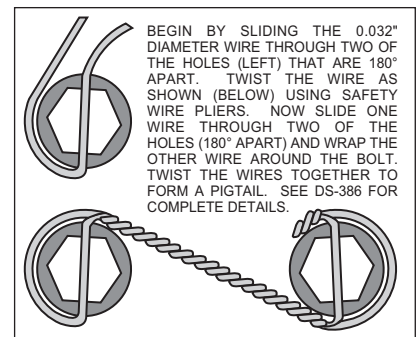

Figure 4. Safety Wire Diagram
using washers (13) and bolts (14). Torque bolts (14) to 85 **in-lb**. Safety wire bolts (14) using standard 0.032 inch diameter stainless steel safety wire as shown in Figure 4. Please refer to Wilwood's data sheet DS-386 (available at www.wilwood.com/pdf/ds386.pdf) for complete safety wire installation instructions.
- Slide the rotor/hat assembly over the studs (7) in the hub (8) taking care to align the small countersunk holes in the hat (12) with the small threaded holes in the hub (8). Install three flat head socket screws (15) through the small holes in the hat (12) and torque to 85 **in-lb**.
- Pack the small outer bearing cone (16) with high temperature disc brake bearing grease and install into front of hub (8). Slide the hub/rotor assembly (8 and 11) with outer bearing cone (16) onto the spindle. Secure using spindle washer (17), stock adjusting nut and nut locking device. Adjust bearings per Original Equipment Manufacturer (OEM) specifications.
- Install the dust cap (18) and o-ring (19) onto the hub (8). Friction created by the o-ring (19) on the dust cap (18) keeps it from unscrewing.
- NOTE:** Please reference the caution statement at the beginning of the assembly instructions. With the bleed screws pointing up, mount the caliper (20) onto the caliper bracket (1) using flat washers (21), lock washers (22), bolts (23) and shim washer (21) positioned between caliper and bracket. Finger tighten. View the rotor (11) through the top opening of the caliper (20). The rotor (11) should be aligned in the center of the caliper (20). If not, adjust the caliper (20) by using 0.032 inch thick shims (21) placed between the caliper mounting bracket (1) and the caliper (20). Finger tighten and recheck alignment. Apply red *Loctite*® 271 to bolt threads (23) and torque to 47 ft-lb.
- Remove the caliper bridge spacer and bolt, then install the disc brake pads (24), then reinstall the caliper bridge spacer and bolt.